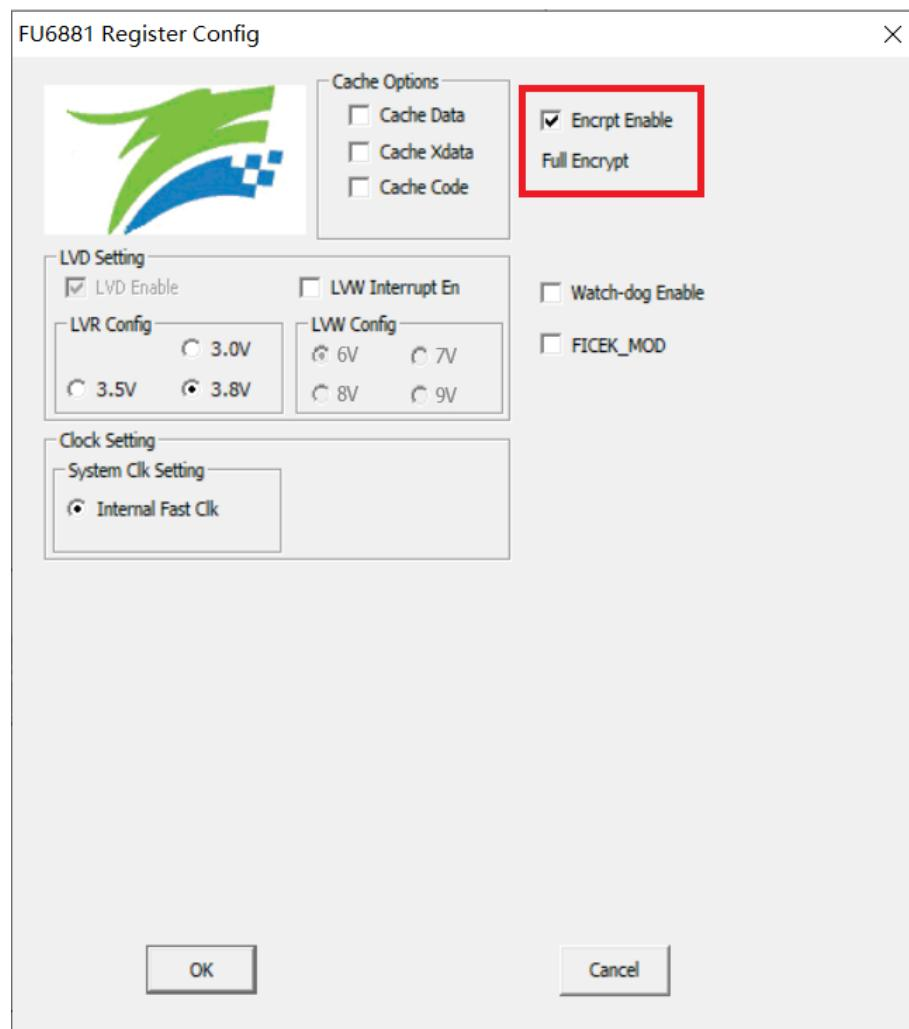

Figure 36-2 Full Code Protection Mode
2. Select the options as shown in Figure 36-2, and click OK. Then compile the project and download it. Get the BIN file and program it to Flash.
<p>3. Added “ADCLK2” to sampling time of ADC module;</p> <p>4. Added section 5.10 LIN Electrical Characteristics and updated descriptions in section 12.1 LIN Introduction;</p> <p>5. Corrected “TIM1_KFMAX” as “TIM1_KRMAX”;</p> <p>6. Modified the type “W” of bit [7] T1UPD in section 16.3.6 TIM1_IER (0x406D) as “W1”;</p> <p>7. Deleted the register T2OPM in Figure 17-1 Output Mode Block Diagram and Figure 17-5 Schematic Diagram of Input Capture Mode</p> <p>8. Standardized the writing of the registers TIM1_KR and TIM1_KF (section 16 Timer1), TIM2_DR, TIM2_CNTR and TIM2_ARR (section 17 Timer2);</p> <p>9. Updated descriptions on the bit [1] in section 23.3.5 P1_PU (0x4054);</p> <p>10. Modified “0.1μF ~ 1μF capacitor” on the bit [VREFEN] in section 27.2.1 VREF_CR(0x404F) as “1μF~4.7μF capacitor”;</p> <p>11. Updated Figure 31-2 Configurations of LV Reset Threshold, LV Interrupt and LV Warning Threshold and Figure 36-2 Full Code Protection Mode</p> <p>12. Standardized the document format and modified some descriptions.</p>